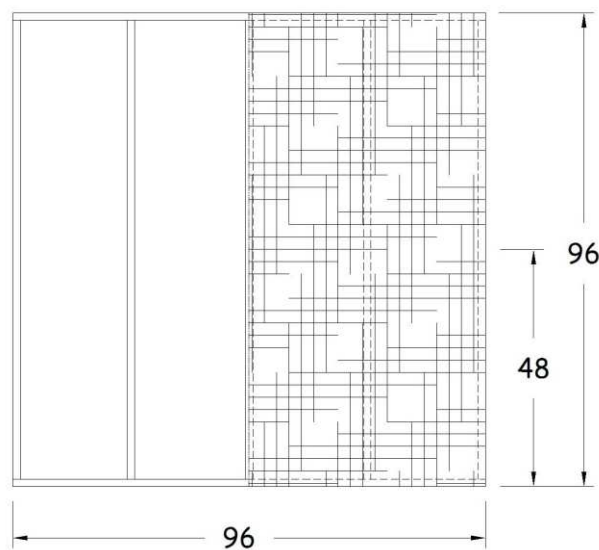

Figure 22-2. Floor Sheathing.
2. Cover half of the floor with one 4'x8' sheet of $\frac{3}{4}$ " treated plywood, flush with the outside edge of one of the end plates (see Figure 22-2). Secure each corner with one $2\frac{3}{8}$ " collated nail. Then attach the rest of the plywood to the end plate, joists and between joists with $1\frac{5}{8}$ " exterior screws, spacing them 12" apart.